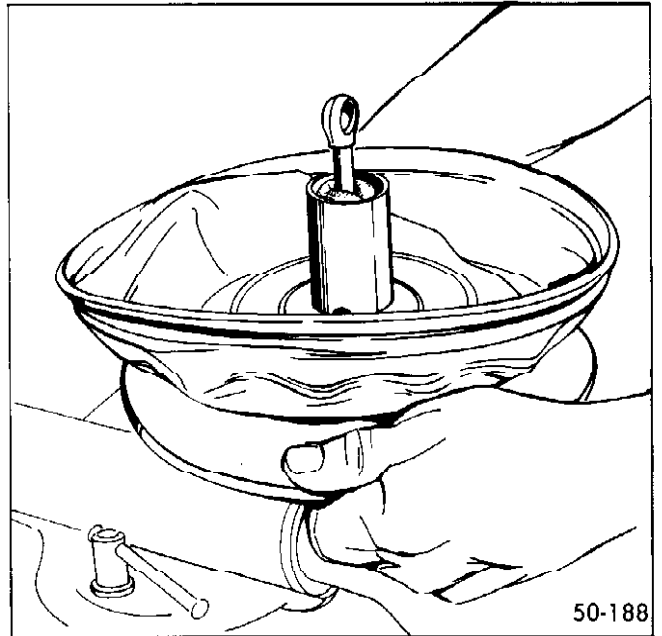

Figure 50-81 Locking or Unlocking Primary Support Plate From Primary Power Piston
11. Fold back primary diaphragm from the support plate. Grip the edge of the support plate and rotate in a counter-clockwise direction to unlock the primary support plate from the primary power piston. See Figure 50-81.
power piston contact the stops on the support plate. See Figure 50-81.